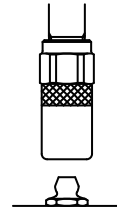

Fig. 5
- 1) Wipe the grease nipple to be used for greasing completely. After that, push the hydro chuck of the high-pressure grease gun against the nipple to perform chucking as vertically as possible. (Fig. 5)